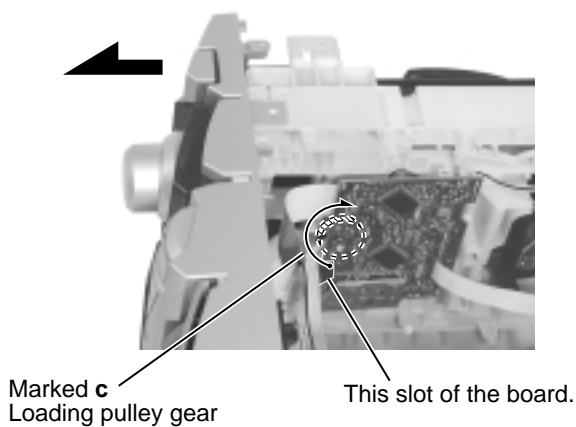

Fig.7
1. Turn the black loading pulley gear marked **c** from the back of the CD changer unit as shown in Fig.7 and draw the CD tray toward the front.